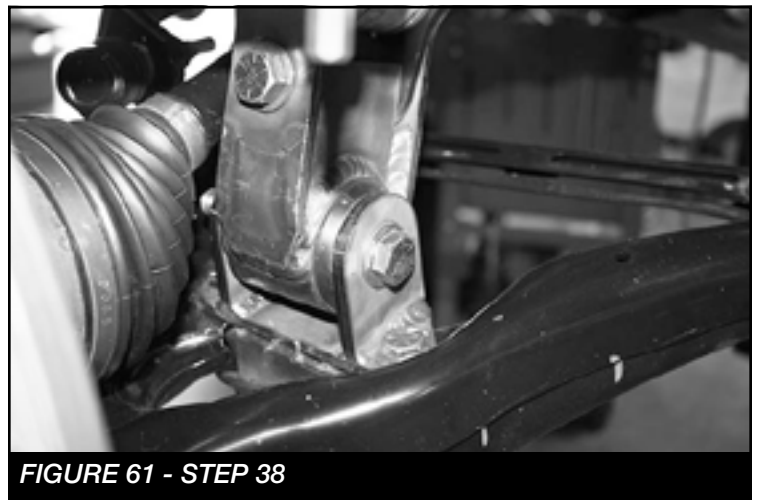

FIGURE 61 - STEP 38
38. Install the factory coilover to the upper mount using the factory hardware and to the new lower mount using the supplied 1/2" x 3-3/4" bolt and hardware. **SEE FIGURE 61 Skip to step 41.**